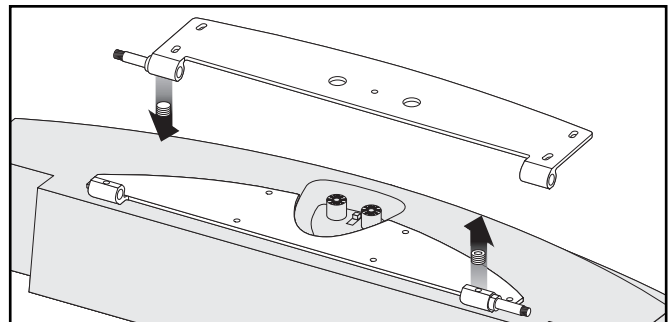

Figure 9. Remove the 2 set screws.
- 4 Using the 2.5mm Allen tool, carefully remove the 2 set screws that hold the 2 hinge pins in place (see figure 9).